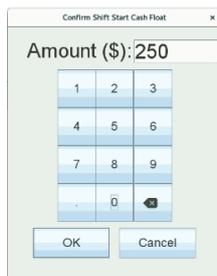

Figure 64: Shift Start Cash Confirmation Window
Once an amount has been entered, the **POS Shift Summary** (Figure 64) for the shift that has just ended can be inspected and closed, printed, or saved as a .csv file for future reference.
2. Displaying the **POS Shift Summary** (similar to Figure 64), which can be viewed, printed, or saved. Tap **Close** to advance to the next step.